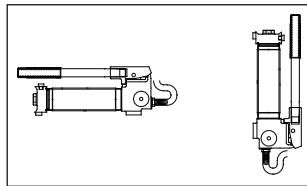

Figure 4 - Horizontal and Vertical Position
3. Pump may be used in horizontal and vertical position (Fig. 4)